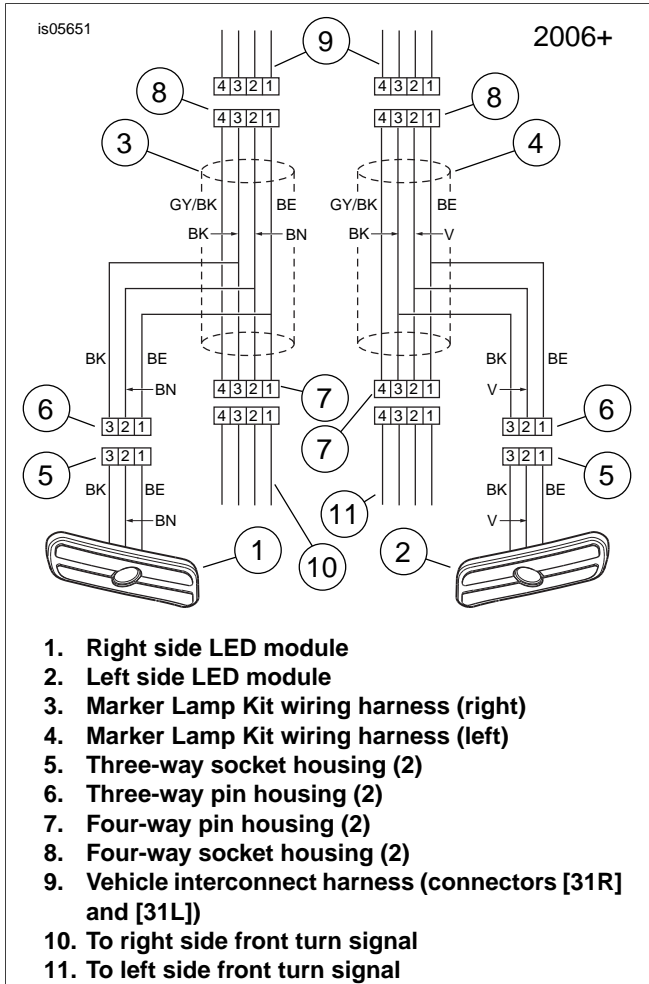
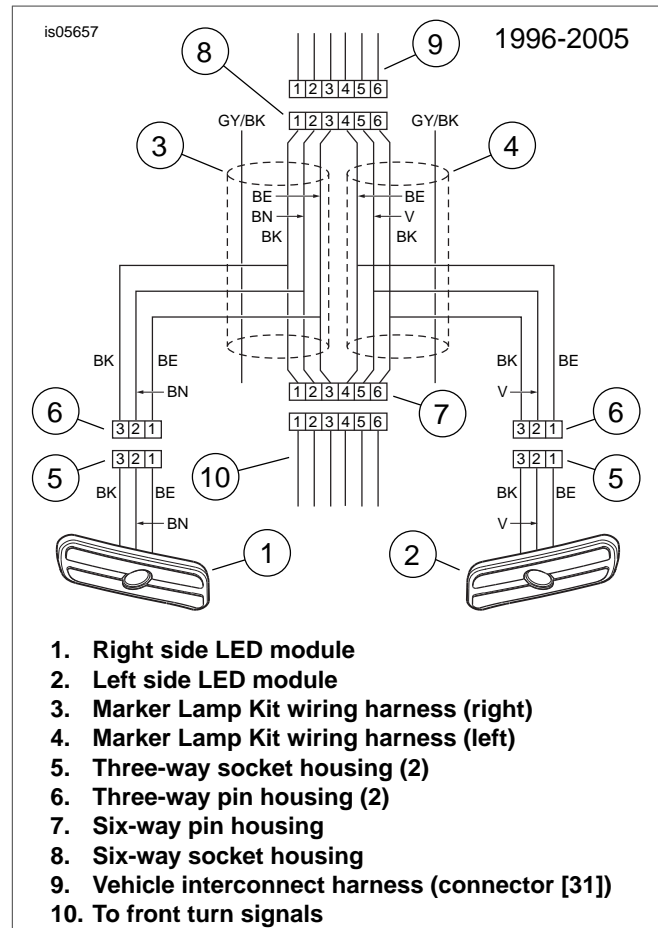
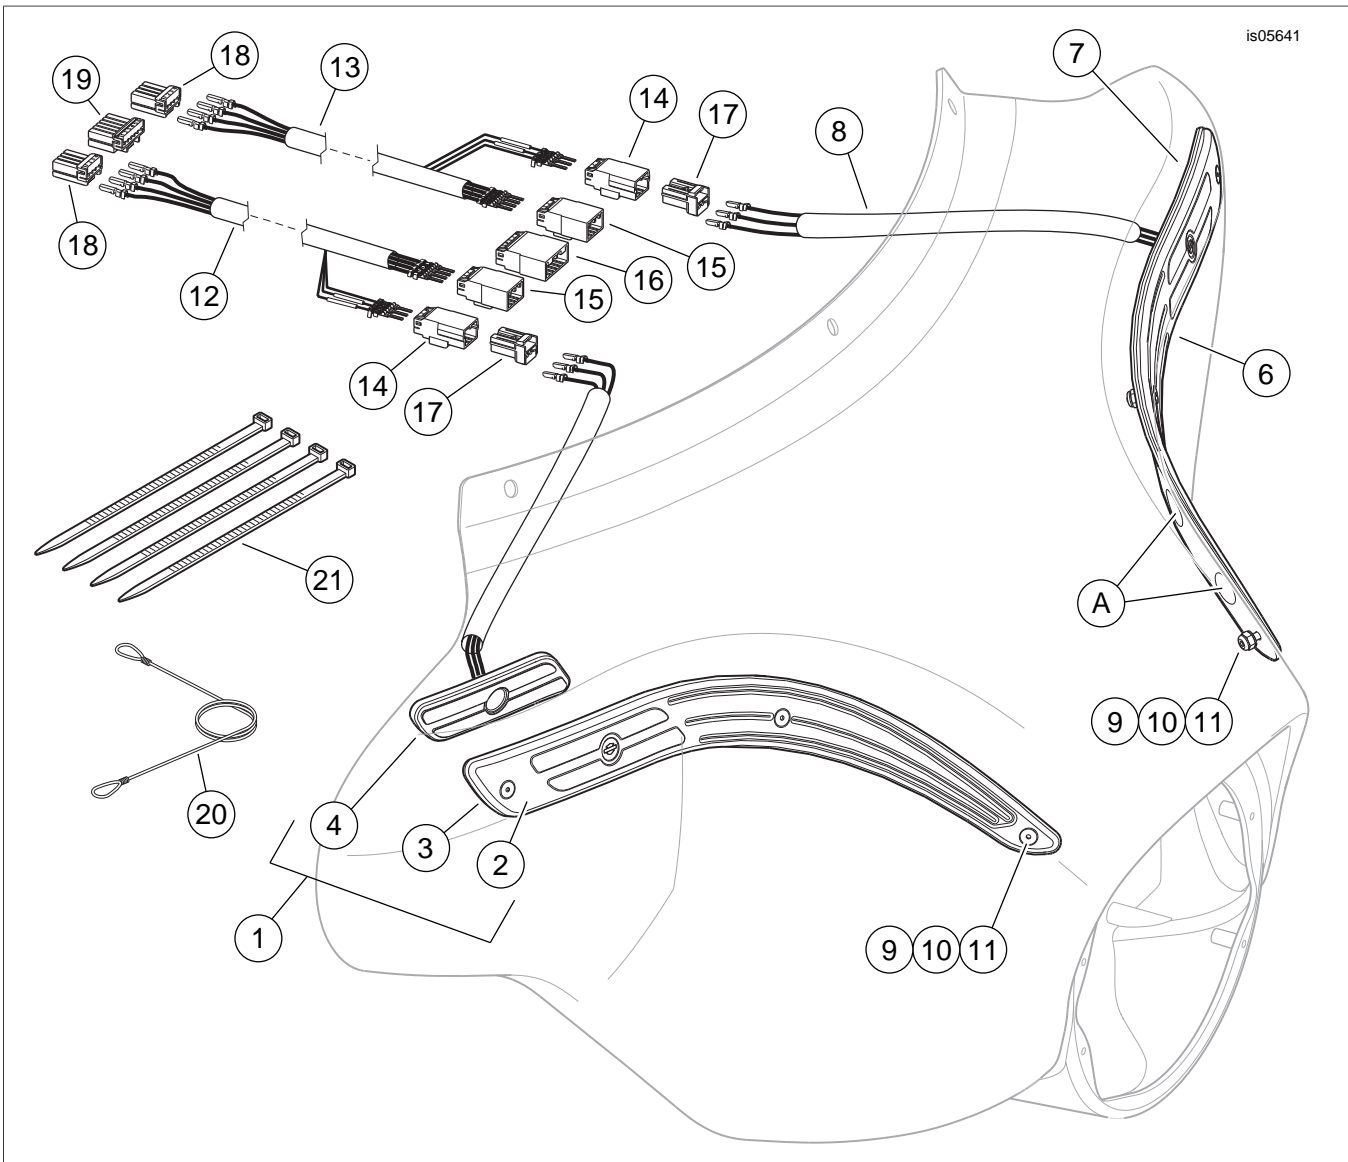

Figure 3. Wiring Diagram, FLHT Fairing Trim and Auxiliary Lamp Kit (2006 and Later)
Figure 4. Wiring Diagram, FLHT Fairing Trim and Auxiliary Lamp Kit (1996 Through 2005)
Figure 5. Service Parts, FLHT Fairing Trim and Auxiliary Lamp Kit
1. See Figure 5. Obtain the right side LED marker lamp module (4). Remove the release liner from the adhesive tape located on the face of the lens.
3. Insert the LED wires through the wiring hole in the fairing. Position the accent assembly against the fairing and install using #8-32 flat head screws (9), flat washers (10) and lock nuts (11).
1. See Figure 3 and Figure 4. Determine the wiring based on the model year vehicle. Insert the terminals of the correct colored wires into the correct pin or socket housing numbered cavities as shown.
2. **2006 and later models:** See Figure 5. Obtain the following items from the kit:
- the right-side (12) and left-side (13) wiring harnesses
- two three-way pin housings (14)
- two four-way pin housings (15)
- two three-way socket housings (17)
- two four-way socket housings (18)
3. See Figure 3 and the wiring diagrams in the service manual. Refer to the service manual and follow the instructions given to separate the four-way Multilock connectors [31R] and [31L] supplying the left and right front turn signals (10) and (11) from the vehicle interconnect harness (9).
4. At one end of the right-side Marker Lamp Kit wiring harness (3) are four wires with **socket** terminals. Follow the color coding in Figure 3, and insert the terminals into the correct cavities of a four-way socket housing (8) according to the instructions in the service manual.
5. At the opposite end of the wiring harness are four wires with **pin** terminals. Follow the color coding to insert the terminals into the correct cavities of a four-way pin housing (7).
6. Follow the color coding to insert the remaining pin terminals into the correct cavities of a three-way pin housing (6).
7. Repeat steps 4 through 6 for the left-side Marker Lamp Kit wiring harness (4).
8. Insert the marker lamp (1 and 2) socket terminals into the correct cavities of the two three-way socket housings (5).
9. Plug the four-way socket housings (8) from the Marker Lamp Kit wiring harnesses into the open four-way pin housings on the interconnect harness (9).
10. **1996 through 2005 models:** See Figure 5. Obtain the following items from the kit:
- one six-way pin housing (16)
- one six-way socket housing (19)
11. See Figure 4 and the wiring diagrams in the service manual. Refer to the service manual and follow the instructions given to separate the six-way Multilock connector [31] supplying the left and right front turn signals (10) from the vehicle interconnect harness (9).
12. At one end of the right-side Marker Lamp Kit wiring harness (3) are four wires with **socket** terminals. Follow the color coding in Figure 4, and insert the terminals into the correct cavities of the six-way socket housing (8) according to the instructions in the service manual.